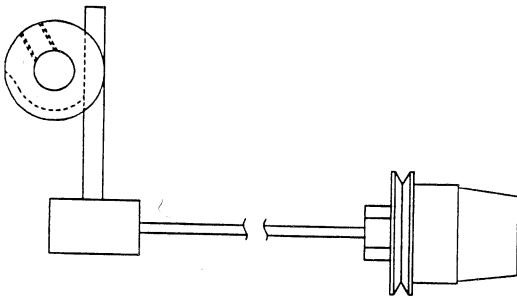

Figure 7
1. *Loosen* the eccentric adjusting screw and *position* the eccentric as shown. (Figure 7).